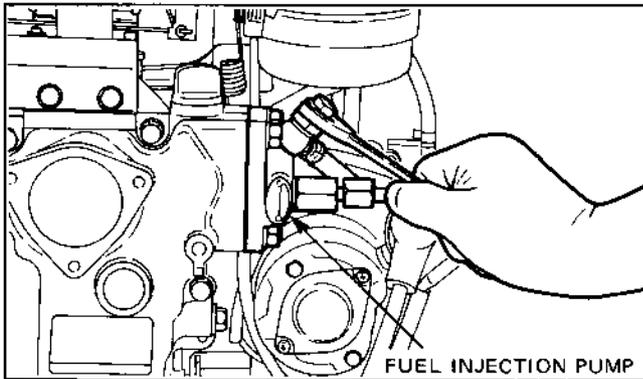

Fig. 10-1
| 1 | Fuel Tank | (1) Discharge fuel from the tank. 1. Turn the fuel cock to close (S). 2. Disconnect the rubber pipe from the injection pump. (See Fig. 10-1.) 3. Turn the fuel cock to OPEN (O) to discharge the fuel. | Do not lose the gasket. Wipe off spilt fuel. | 17 mm spanner |